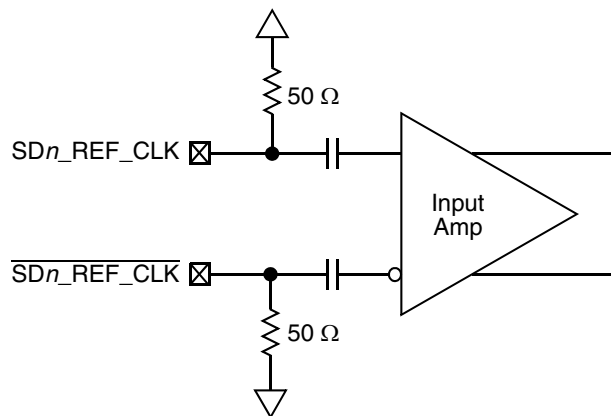

Figure 45. Receiver of SerDes Reference Clocks
Figure 45 shows a receiver reference diagram of the SerDes reference clocks.
- The $\overline{\text{SDn_REF_CLK}}$ and SDn_REF_CLK are internally AC-coupled differential inputs as shown in Figure 45. Each differential clock input ($\overline{\text{SDn_REF_CLK}}$ or SDn_REF_CLK) has a 50- Ω termination to SGND_SRDSn (xcorevss) followed by on-chip AC-coupling.